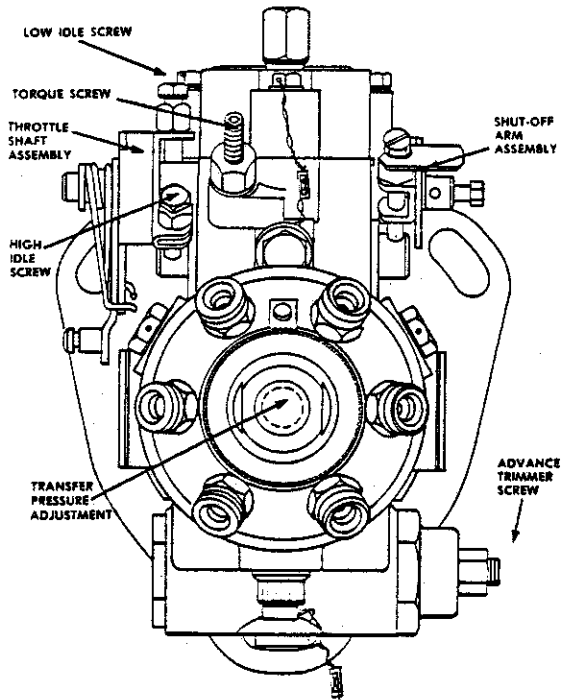

Figure 6-21. Typical Pump End View
2. Determine proper direction of pump under special notes on individual specifications. Rotation is determined as viewed from drive end of pump (figure 6-21).